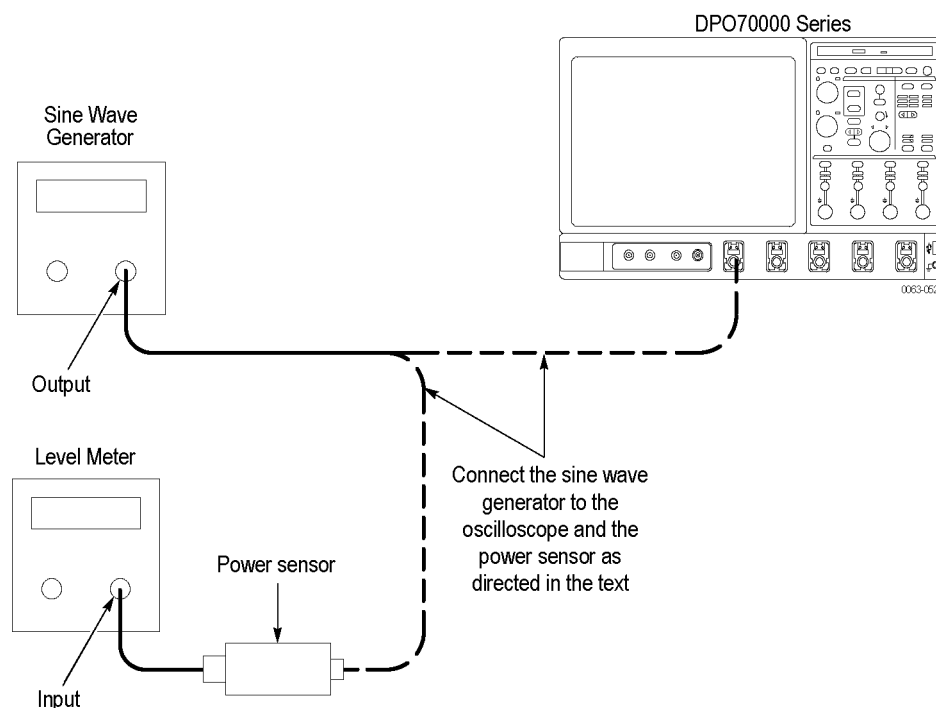

Figure 47: Equipment setup for maximum amplitude
1. *Install the test hookup:* Connect the equipment as shown in the figure below (start with the sine wave generator connected to the instrument). (See Figure 47: Equipment setup for maximum amplitude on page 283.)